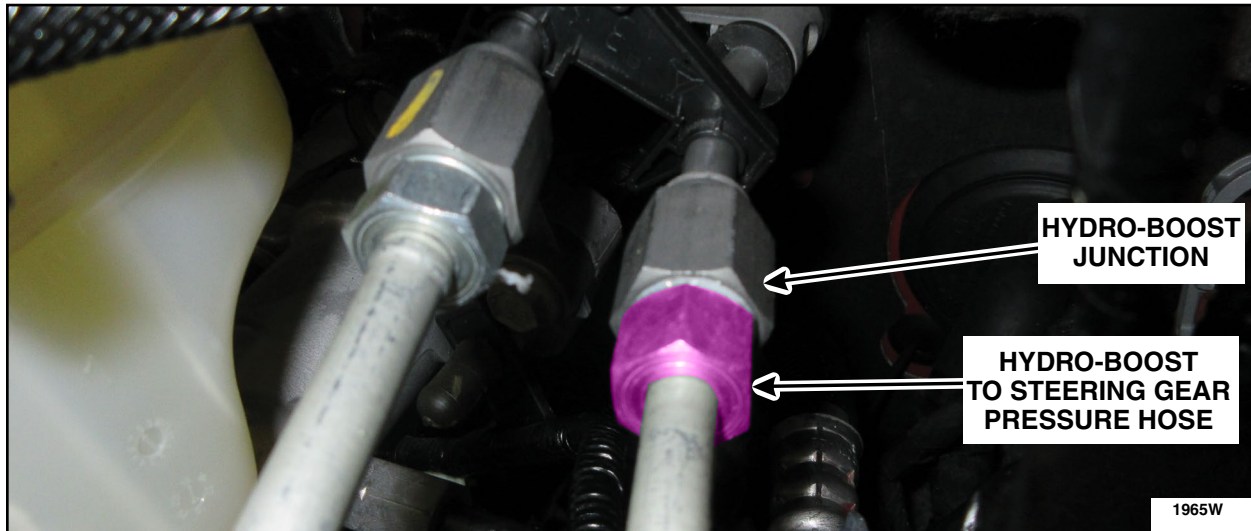

FIGURE 24
4. Remove the hose fitting from the Hydro-Boost junction and disconnect the Hydro-Boost to steering gear pressure hose. See Figure 24.